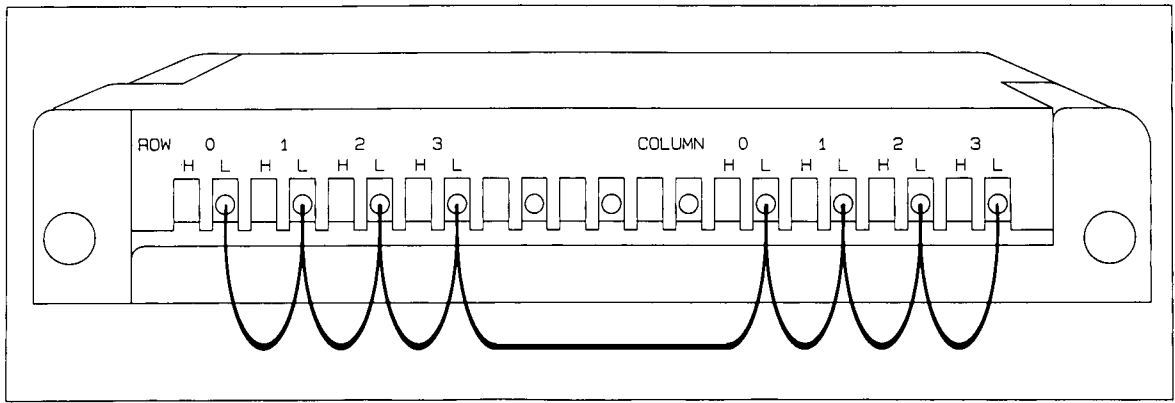

Figure 11-8 Row Or Column High To Low Test Wiring #2
18. Configure a 44483A wiring block so that the low lines of all the rows and columns are shorted together as shown in Figure 11-8.